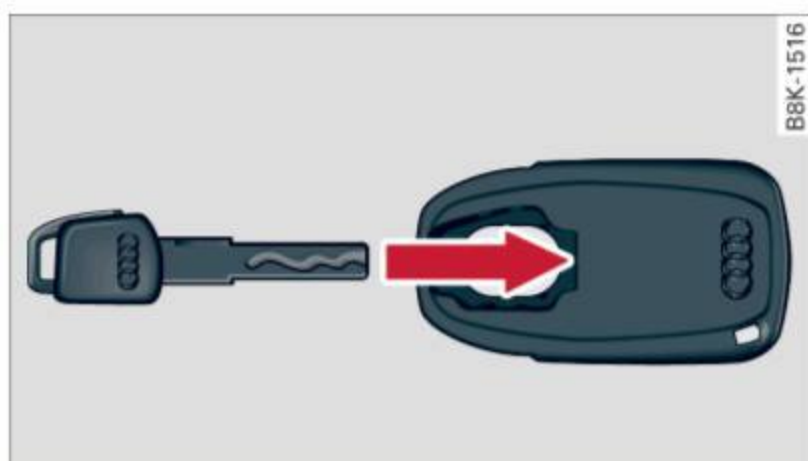

Fig. 76 Insert emergency key into the adapter
- ▶ Push the emergency key ⇒ *fig. 76* fully into the adapter. Make sure that the Audi rings are facing up.